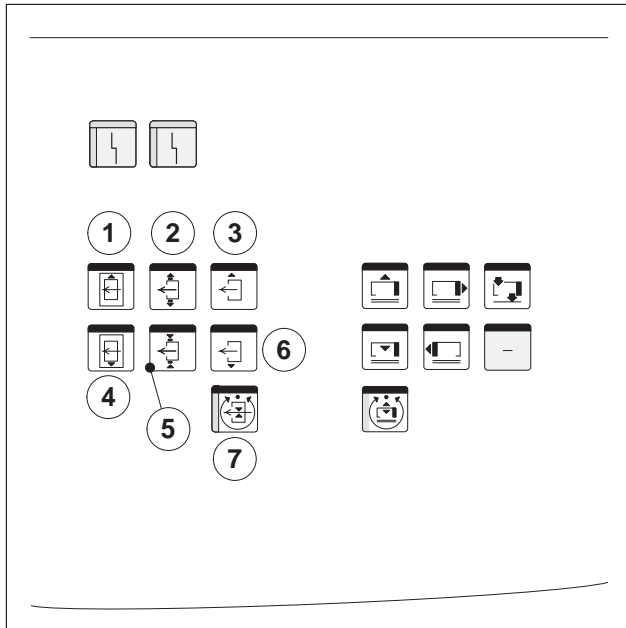

Fig. 13
Automatic/manual pile alignment (Fig. 13/7)
Pull distance correction towards D.S. (Fig. 13/1)
Pull distance correction towards O.S. (Fig. 13/4)
The feeder display shows the selected pull distance during adjustment, or when the buttons (Fig. 13/1) and (Fig. 13/4) are pressed at the same time.
You can change the position of the lateral sheet separation blowers manually when automatic pile alignment is switched off (Fig. 13/7).
Increasing the lateral sheet separation blower sheet size (Fig. 13/2)
Decreasing the lateral sheet separation blower sheet size (Fig. 13/5)
The feeder display shows the current sheet width during adjustment or when the buttons (Fig. 13/2) and (Fig. 13/5) are pressed at the same time.
In "Manual" mode, the pile (main pile or auxiliary pile) can be aligned with the buttons (Fig. 13/3) and (Fig. 13/6). These buttons do not have any function in "Automatic" mode. The pile is aligned by the pile control system.
*Pile to D.S.* (Fig. 13/3)
*Pile to O.S.* (Fig. 13/6)